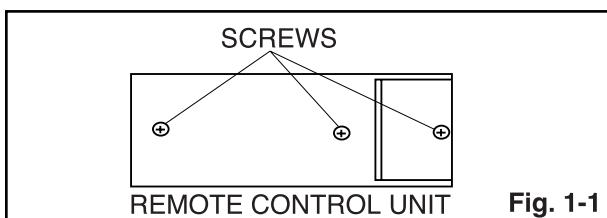

Fig. 1-1
1. Prepare normal remote control unit. (Part No. N0127UD or N0132UD or N0105UD or N0108UD) Remove 3 Screws from the back lid. (Fig. 1-1)